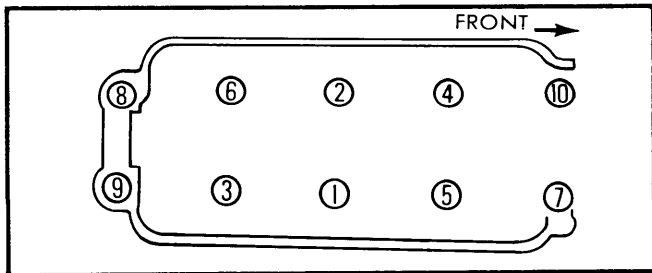

Fig. 2 Tighten Cylinder Head in Sequence Shown (Remove in Reverse Sequence)
2) Replace cylinder head and components in reverse order of removal procedure. Tighten head bolts in sequence. See Fig. 2. Start engine and run until normal operating temperature is reached. Allow to cool to about 95° F (35° C) and tighten to final torque.